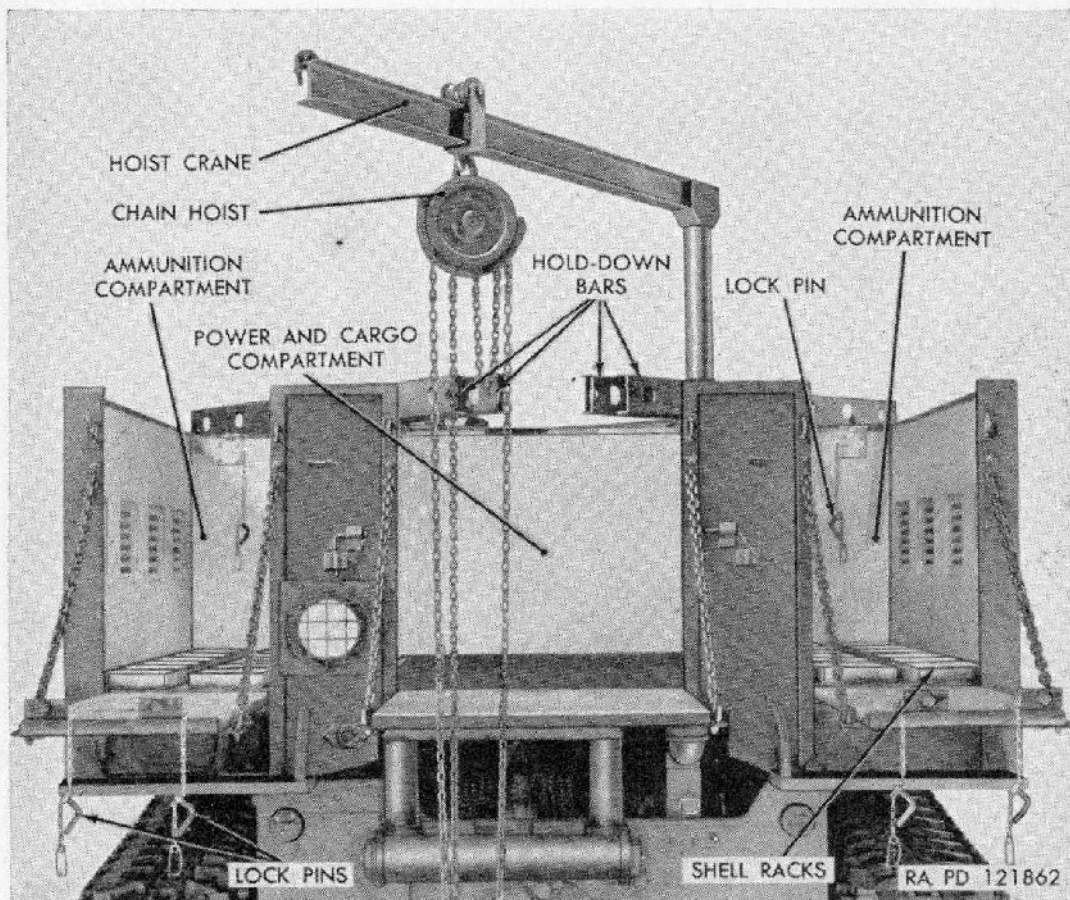

Figure 13. Ammunition box details.
a. Description. The ammunition box on the rear end of the tractor is divided into five compartments (fig. 13). The two outer compartments are equipped with shell racks and hold-down bars for carrying 240-mm shells in an upright position. The center compartment provides space for powder charges and dunnage. The lower compartment on the left side of the tractor (fig. 2) provides space to carry the snatch block, towing chains, hoist, and extra oil. The lower right compartment provides space to carry water cans (fig. 1).
a. General. A swinging crane with a trolley hoist provides for hoisting ammunition or heavy dunnage into the box (fig. 13).